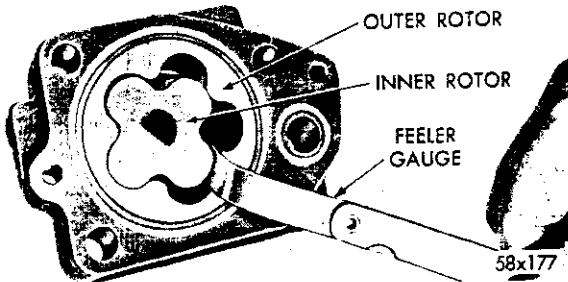

Fig. 8—Measuring the Clearance Between Rotors
(10) If the top clearance between the inner and outer rotor (Fig. 8) is more than .010 inch, replace the inner and outer rotors.